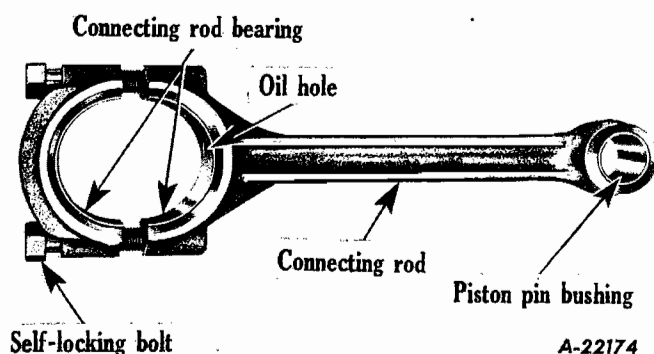

Fig. 20
4. Each connecting rod is numbered as to its position in the engine and these numbers are located on the camshaft side of the engine (Fig. 20). Remove self-locking cap screws from connecting-rod cap and remove cap. Push connecting-rod and piston assembly toward top of block, but first remove ridge from top of cylinder wall, if any. Lift piston and connecting-rod assembly from top of cylinder block. Replace cap on connecting rod. Remove the remaining pistons, following the same procedure.